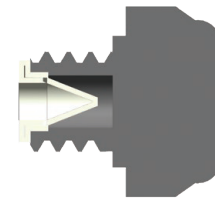

Figure 1
- Remove the inline filter (5) from the tubing and hold up to a light to look through it. If light can be seen through it, the filter is clean. If light is blocked, blast air from a syringe through the inline filter (5) from distal to proximal end (reverse of normal flow) to attempt to clear the blockage. If blockage persists, the filter needs to be replaced.
2. Remove the exhaust filter (3) and take care to not lose the one-way valve. The one-way valve may be inside the bottom of the exhaust filter, or may stay inside the vacuum heel until step 4 of this procedure which should dislodge the one-way valve from the housing.
6. Remove the one-way valve from the exhaust filter (3) or retrieve the dislodged one-way valve from the exhaust side of the vacuum heel. Flush the one-way valve with distilled water or isopropyl alcohol using a syringe or with compressed air.
7. Rinse the exhaust filter (3) with distilled water or isopropyl alcohol.
8. Reinstall the one-way valve into the exhaust filter (3) as shown in Figure 1.
9. Reinstall the exhaust filter (3) into the vacuum heel and torque to 14 in-lbs.
10. Reconnect the tubing (4) to the inline filter (5) and socket.